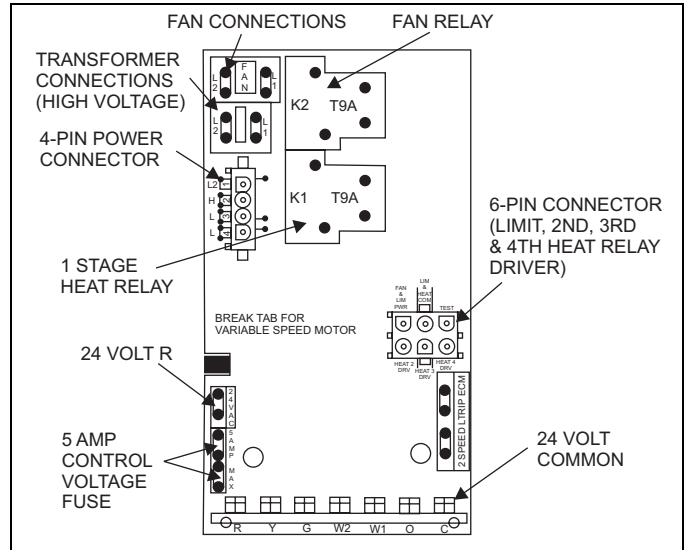

FIGURE 8: Control Board
The low voltage transformer and the fan / heater control are standard on all models. The air handlers are shipped pre-wired to operate as cooling only applications. To complete the installation for cooling only, install a 6-pin jumper plug to the control board to bypass the heater limit controls. This jumper plug is secured to the duct cover near the 4-pin power plug harness. Failure to install the plug will cause the blower to run continuously. See Figure 8.
1. Remove the 4-pin power plug from the control board (See Figure 8).